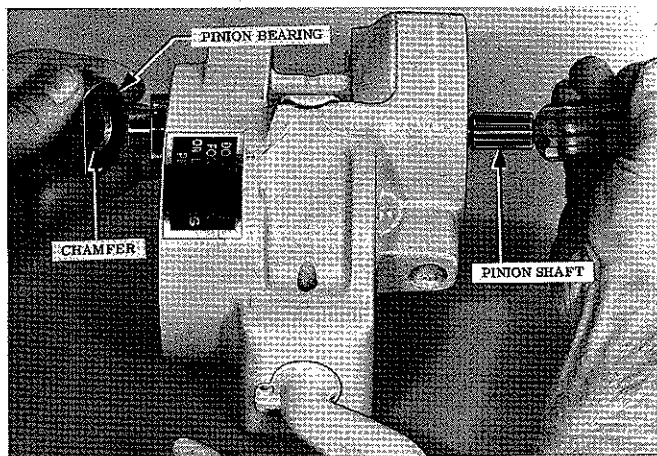
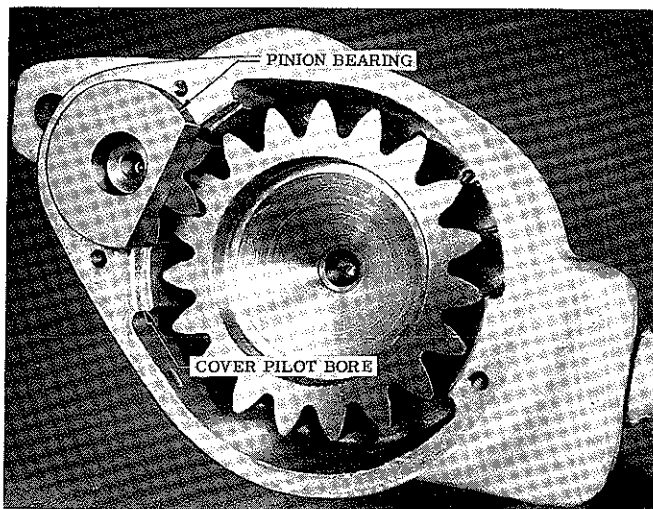

Figure 6-9. Removing Pinion Bearing from Frame and Pinion Shaft
Figure 6-13. Positioning of Pinion Bearing
b. Remove pinion bearing from pinion shaft and bore in frame. Bearing can be started but of bore by tapping on end of shaft as shown in Figure 6-9.
b. When installing pinion bearing, be certain to position it so chamfer in bore faces the pinion gear. See Figure 6-9. The flat on side of bearing must be perfectly aligned with cover pilot bore in frame, as shown in Figure 6-13.